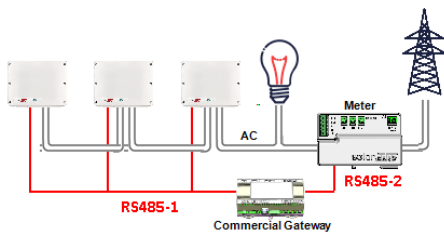

Figure 5: Multi-inverter connection with Commercial Gateway and meter
- The meter is connected to one of the RS485 ports of a Commercial Gateway. The Commercial Gateway's second RS485 port can be used to create an RS485 bus for communication between the inverters. This option is illustrated in *Figure 5*.